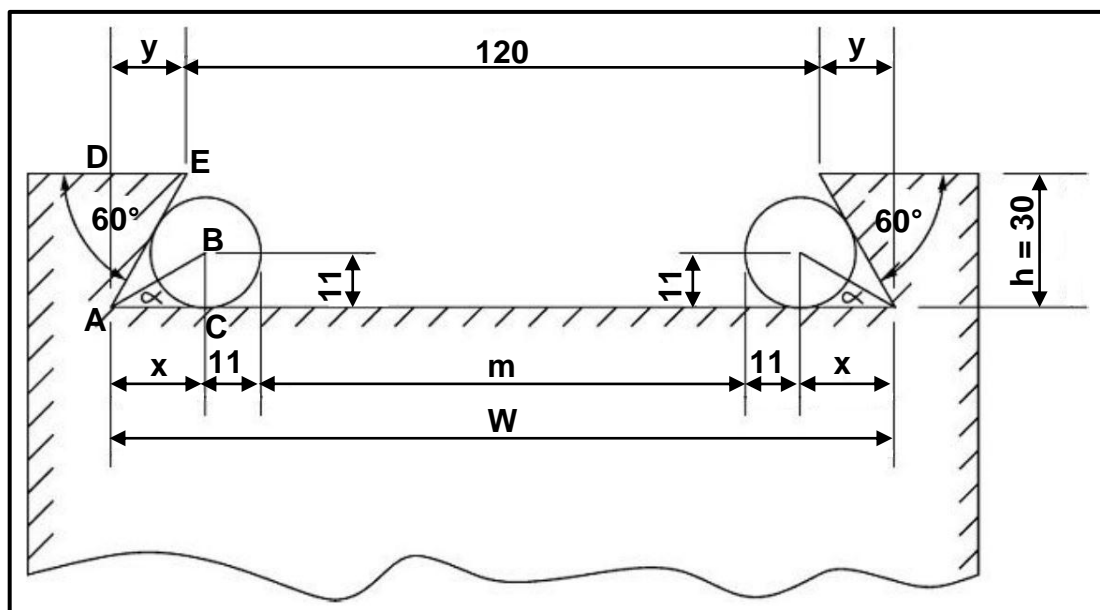

FIGURE 6.2
- 6.2 FIGURE 6.2 below shows an external dovetail that must be manufactured for a compound slide of a centre lathe.